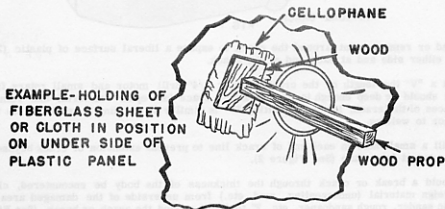

FIG. 3
7. Saturate fiberglass cut pieces with plastic mixture, by using a small brush, and apply to the damaged area. If support is required to hold the saturated fiberglass in place, cover with a piece of cellophane, then employ a wood or metal prop (See Figure 3). Cellophane is the only material that can be used to keep the wood or metal prop from sticking to the repair.
- Support patch as shown in Figure 3 if necessary.